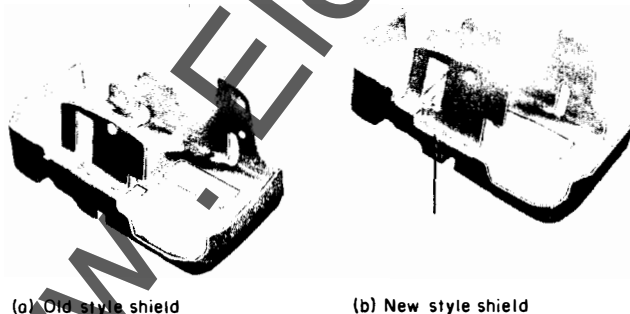

Fig. 6. Motor shield for demand registers
**NOTE:** Types M-30, M-31 and M-51 demand registers require a motor shield when used on meters having magnetic suspension. Before installing demand registers with serial numbers below 1653204 on DS-60 series meters, it is necessary to remove the motor shield and replace it with a shield of later design. This change in the shield design (see arrow in Fig. 6) eliminates mechanical interference between the register and the meter.